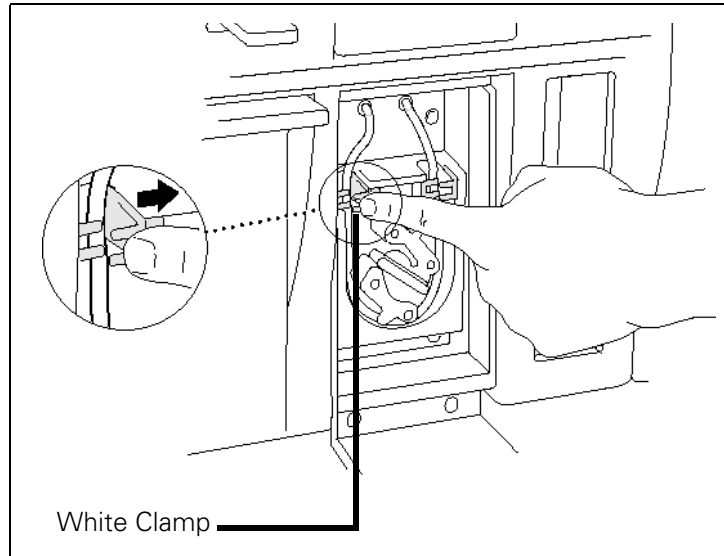

Figure 6.7
2. Open the white clamps to release tubing on both sides. See Figure 6.7.